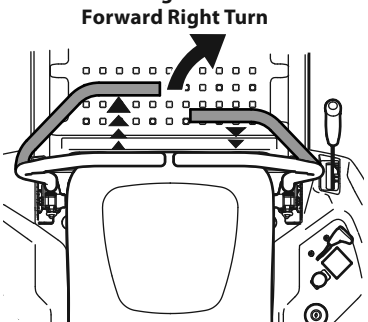

Figure 21
2. To turn to the right, move the right drive control lever rearward of the left lever. See Figure 21.